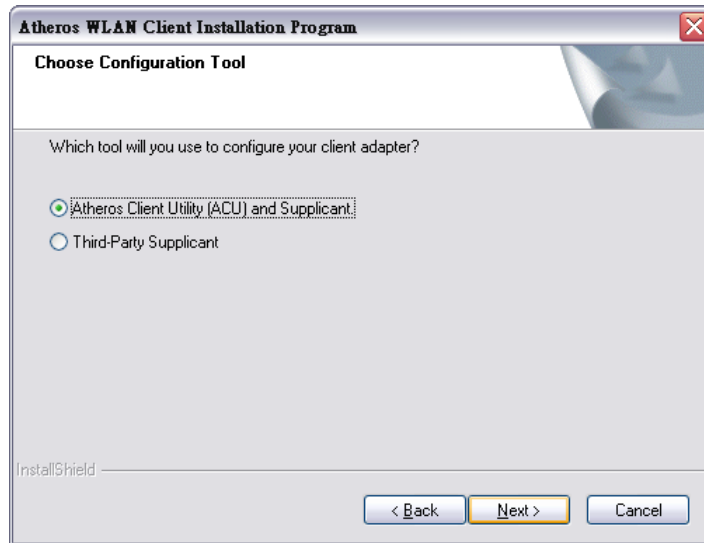

Figure 6-35: Wireless Driver – Choose Configuration Tool
Step 10: The Choose Configuration Tool window appears (**Figure 6-35**). Choose **Atheros Client Utility (ACU) and Supplicant** and click **Next**.